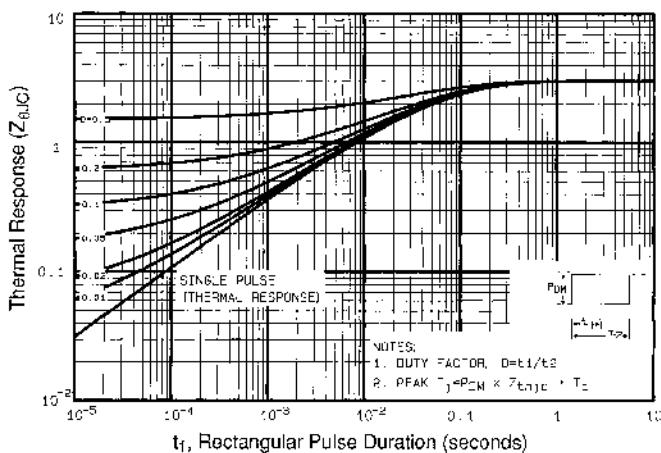

Fig 11. Maximum Effective Transient Thermal Impedance, Junction-to-Case
① Repetitive rating; pulse width limited by max. junction temperature (See Figure 11)
② $I_{SD}\leq 3.1\text{A}$, $dI/dt\leq 65\text{A}/\mu\text{s}$, $V_{DD}\leq V_{BR(DSS)}$, $T_J\leq 150^\circ\text{C}$ ③ $V_{DD}=50\text{V}$, starting $T_J=25^\circ\text{C}$, $L=29\text{mH}$